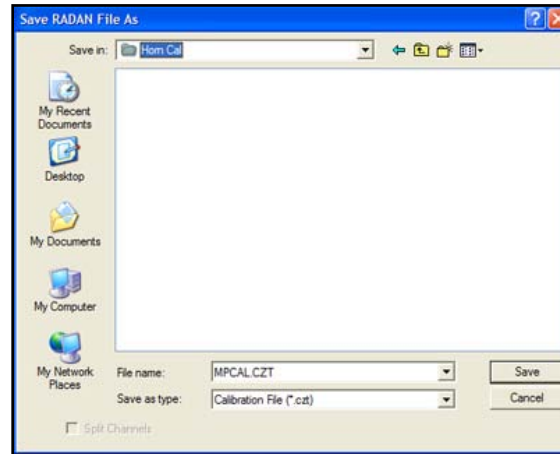

Figure 79: Horn Cal Folder.
- 5 Save this file in the Horn Cal directory. This directory is part of your RADAN program, you do not need to create it (Figure 79). Pull down the Save In menu and browse to find the Horn Cal folder. It will be located in C:\Program Files\GSSI\RADANXP\. Make sure that the CZT file is saved to this directory. After it saves, you will see the short calibration file on the screen. Close that short file and leave the long, wave file on the screen.